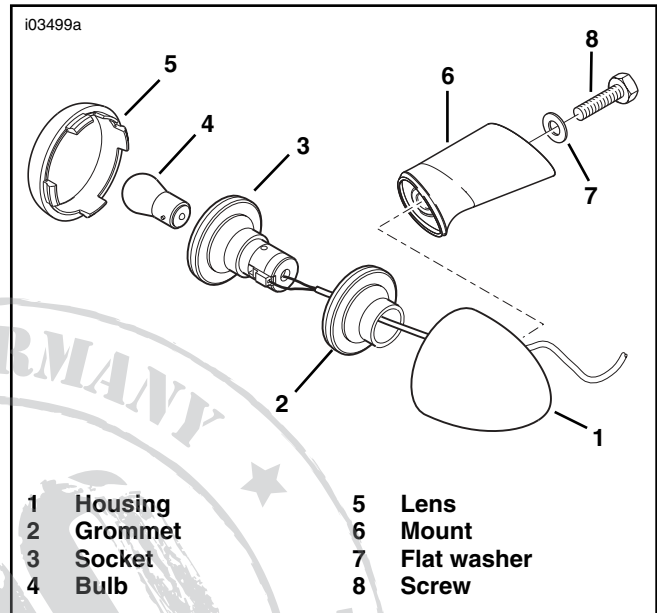

Figure 1. Removing the Stock Turn Signal Housing and Mounting Hardware
7. See Figure 1. Remove the lens (5) from the turn-signal housing (1).
8. Remove the bulb (4) from the socket (3).
9. From inside fender, remove bolt (8) and lockwasher (7) securing the rear turn-signal housing and housing mount (6) to the fender support. Discard bolt and lock washer.